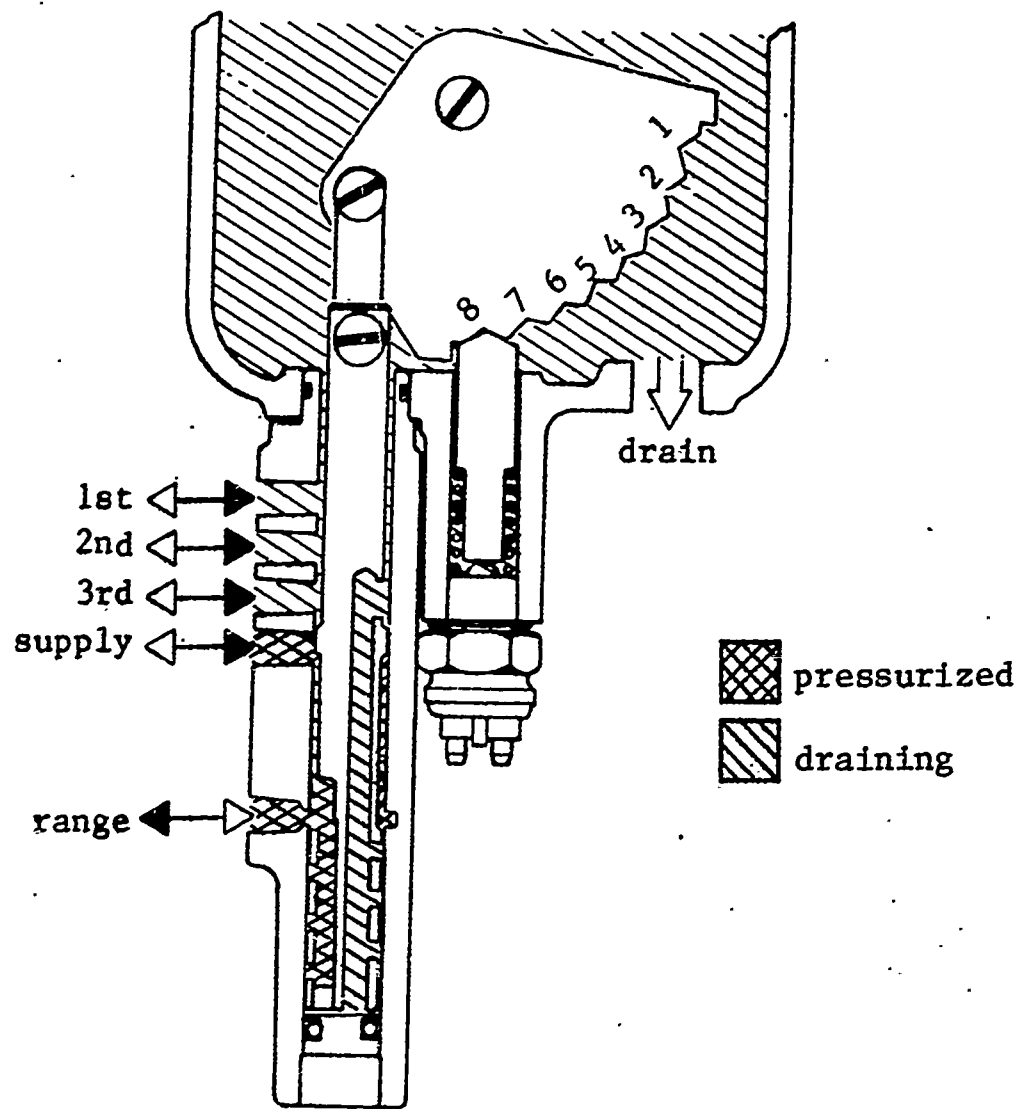

Fig. 10 Control valve in eighth gear
Figure 10 shows the shift control valve in eighth gear position or fourth reverse. There is pressure in the range hose. Hoses (1), (2) and (3) are draining off.